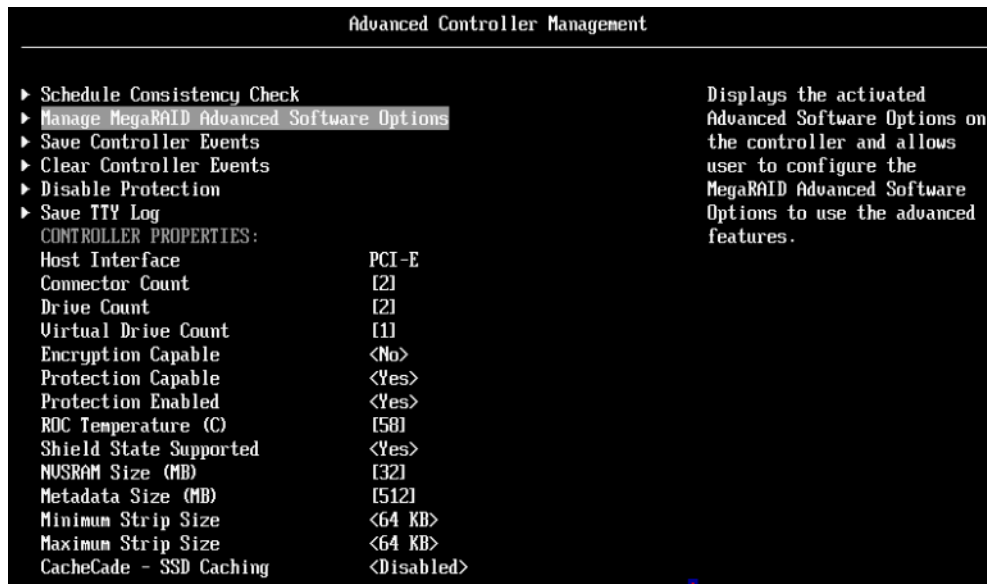

Figure 5-24 Advanced Controller Management menu panel
4. From the Controller Management main menu panel, select **Advanced**, as seen in Figure 5-24.